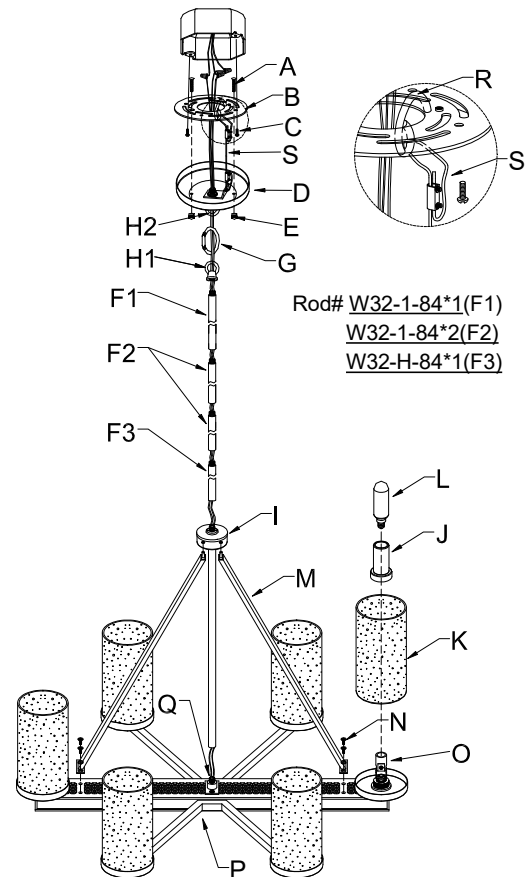

Fig. 3
CONNECTING THE WIRES (Fig. 3)
10. At this point, connect the electrical wires as shown in fig 3, making sure that all wire connectors are secured. If your outlet has a ground wire (green or bare copper), connect the fixture's ground wire to it. Otherwise, connect the fixture's ground wire directly to the circular strap (B) using the green screw provided.